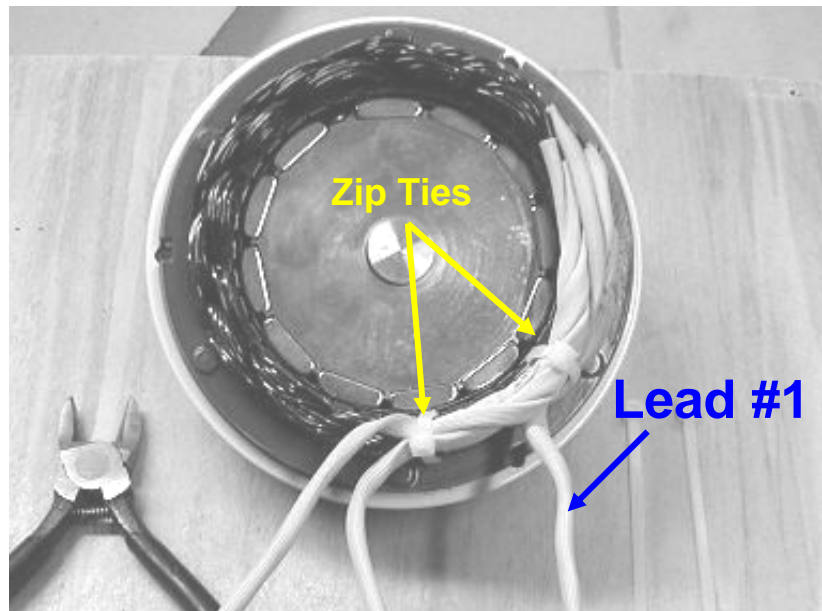

Fig. 1
7. Using masking tape, immediately label the counter-clockwise-most lead as **#1** if it is not already labeled. See **Fig. 1**
- A) Immediately label the counter-clockwise-most stator lead **#1**. See **Fig. 1**
- 1) First, capture all three leads with the zip tie in the counter-clockwise-most wide-slot in the copper windings beneath the wire bundle. See **Fig. 1**
- 2) Next, Capture only the #2 and #3 leads with the zip tie in the clockwise-most wide-slot in the copper windings such that the stator matches the illustration in **Fig. 1**. Now perform **step 32**.